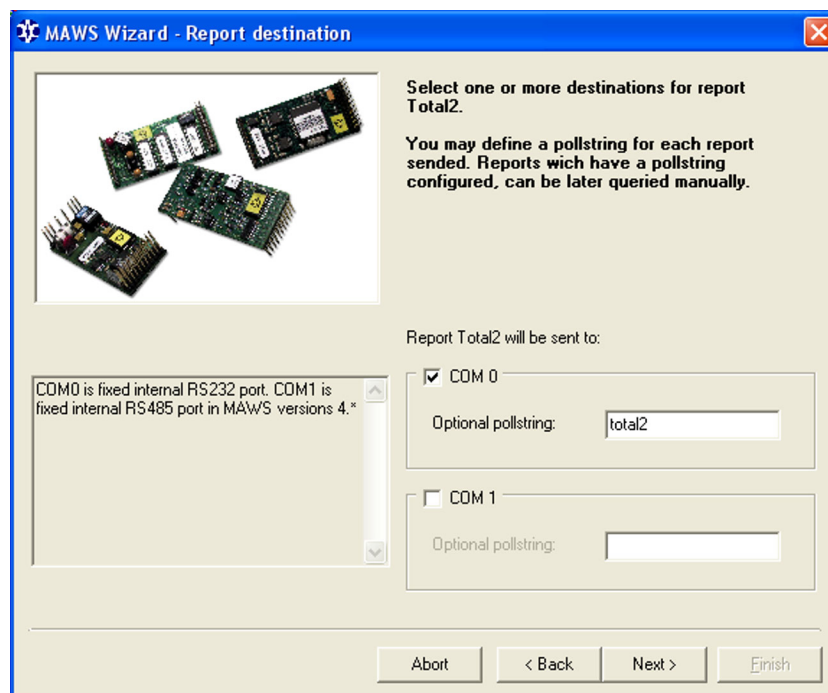

Figure 20 Selecting Report Destination
10. In the **Report Destination** view (presented in Figure 20 on page 42), you can select a destination for the reports selected in the previous view. You can choose between the COM0 and COM1 ports. You can also define an optional pollstring for each report.